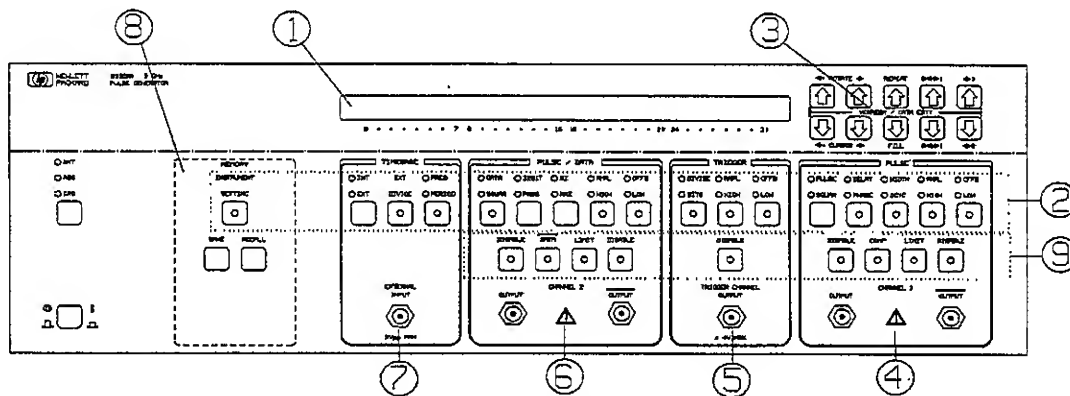

Figure 2-1. HP 8133A Frontpanel overview
- indicated by LEDs in and above a **mode/parameter** key (See Figure 2-1).